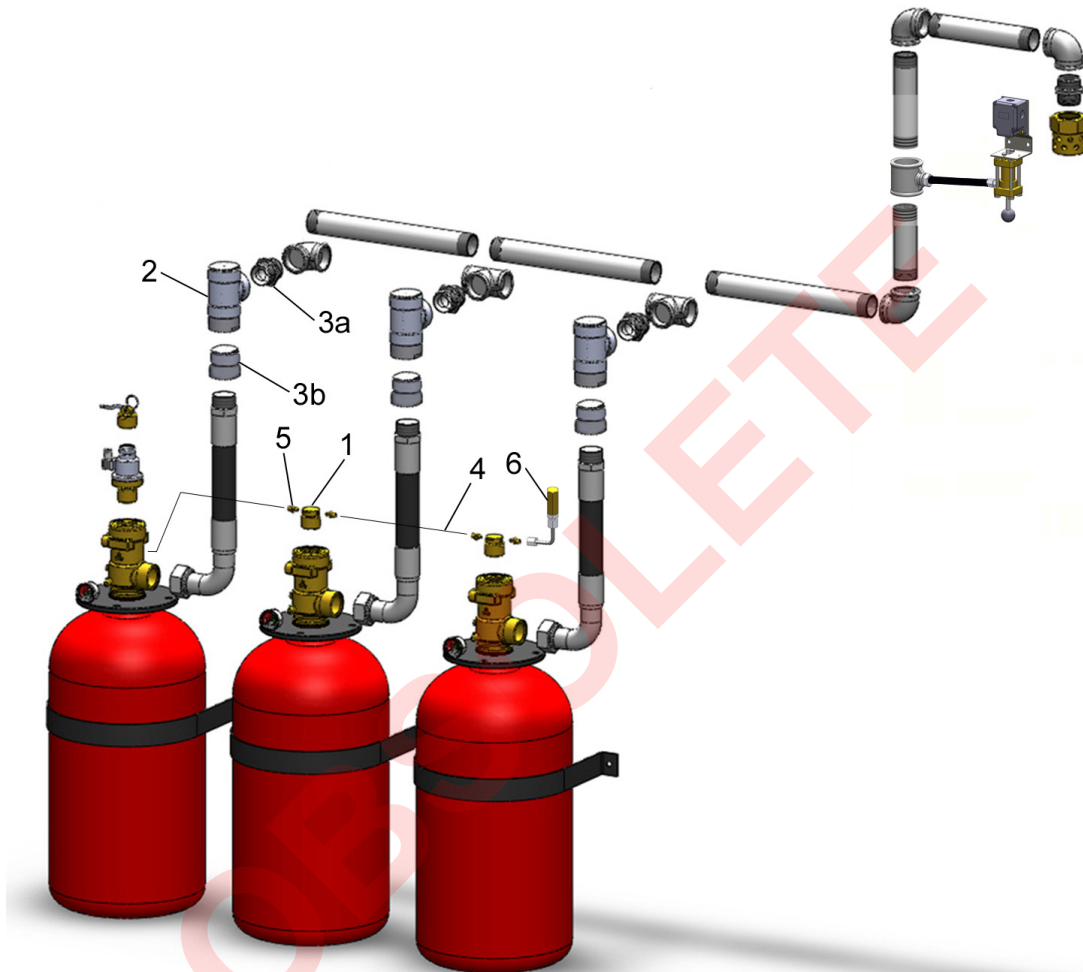

Figure 4: Example of a Complete VK 1230™ Fire Extinguishing Multi Container System
**NOTE:** Additional components are required for a Multi Container System. Refer to Table 4a on page 100e and Figure 4 on page 100f.
Additional Components Needed for Multi Container Systems (also refer to Figure 4 on page 100f)